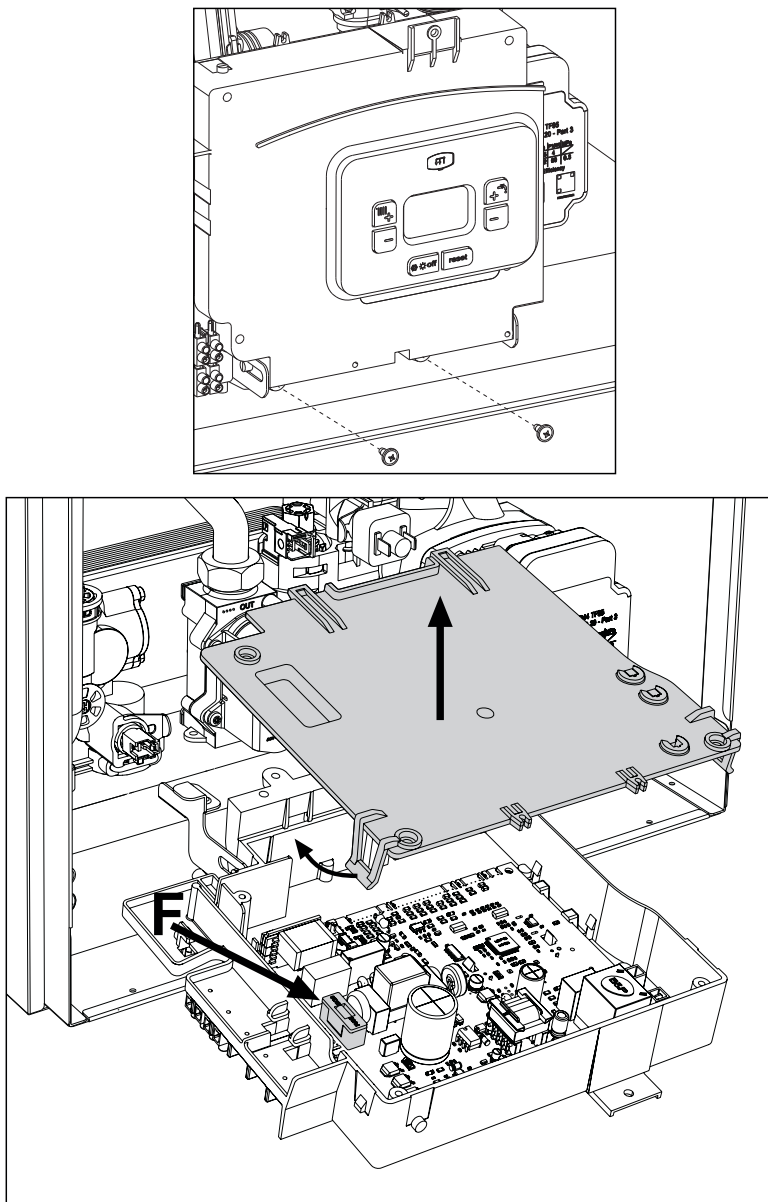

fig. 20
By following the instructions in fig. 20, it is possible to access the fuse (F).
2.5.4 ON/OFF (A fig. 20) configuration